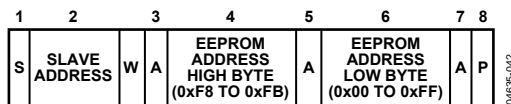

Figure 36. Setting an EEPROM Address
- To set up a 2-byte EEPROM address for a subsequent read, write, block read, block write, or page erase. In this case, the command byte is the high byte of EEPROM Address 0xF8 to EEPROM Address 0xFB. The only data byte is the low byte of the EEPROM address, as shown in Figure 36.